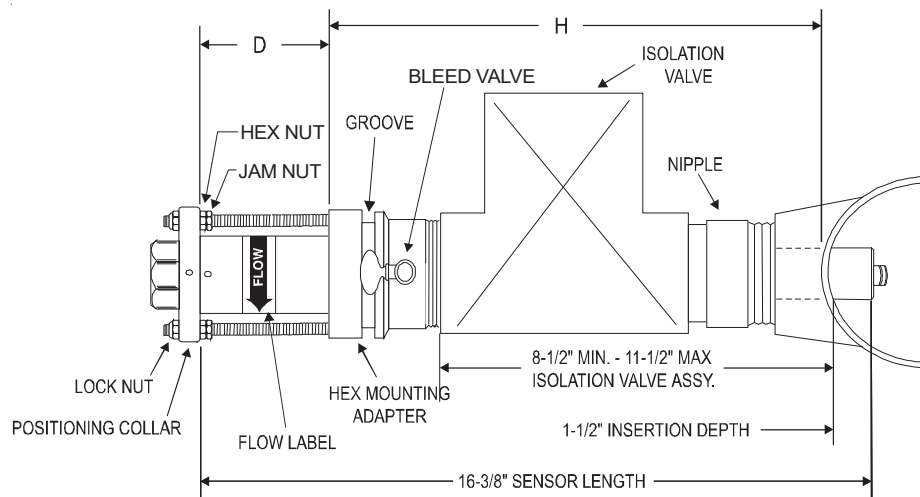
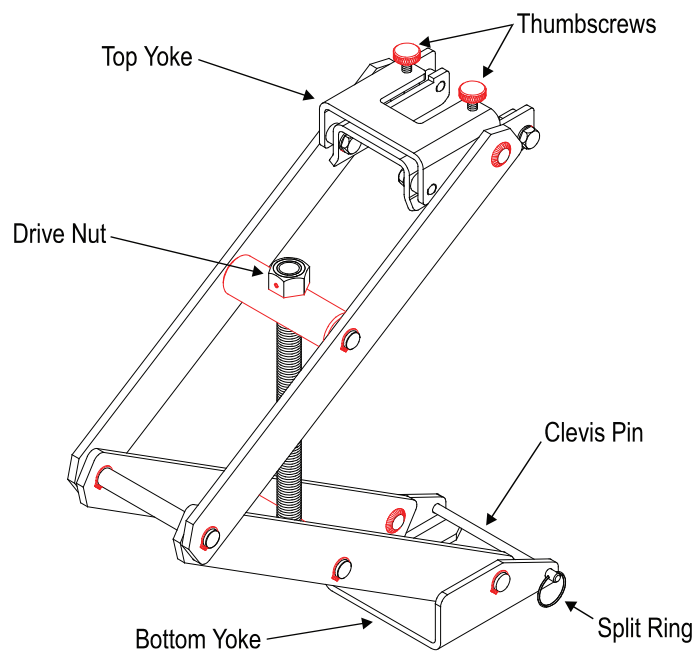

Figure 1: Hot tap flow sensor drawing
Figure 2: Model HTT Parts
Before you start, calculate the distance (D) between the top of the sensor hex mounting adapter and the bottom of the positioning collar (the top of the hex nut). To do so, **ADD** the H dimension, pipe wall thickness, and insertion depth, and **SUBTRACT** the total from the overall sensor length. See the example and formula below, and refer to Figure 1.
To install the hot tap flow sensor into a pressurized pipeline, follow these steps. Use Figure 1 on page 1 and Figure 2 for reference.
Use Figure 1 on page 1 and Figure 2 on page 2 for reference.